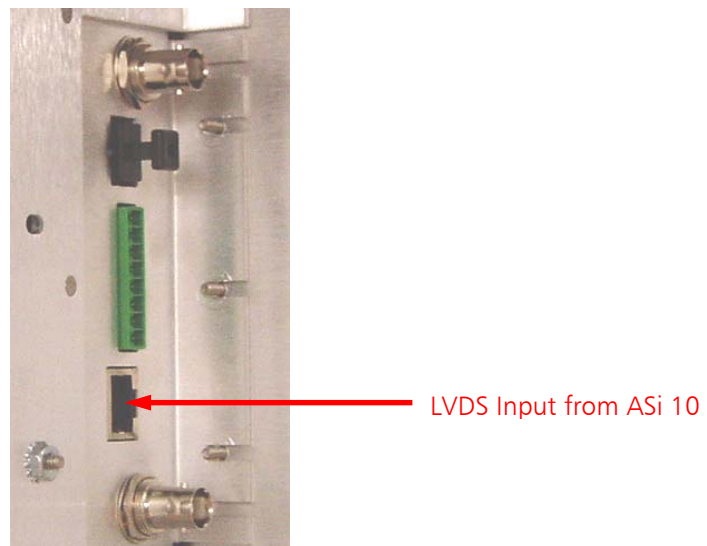

Figure 40 – ASi 10 to 4MX 25/50 Connection
Step 5 – Route the **Shielded Ethernet LVDS Cable** (846-0010, identified in Section 7.1 as Item 3) down through the top of the 4MX Cabinet to the Remote I/O Connection Cavity of the Transmitter. Next, connect the cable to the **LVDS Input** of the 4MX as shown in **Figure 40** below.